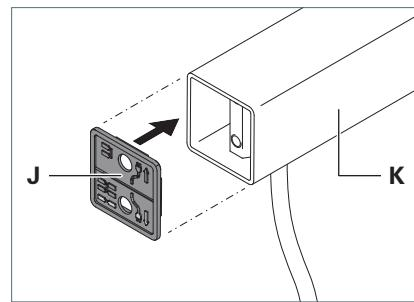

Fig. 2: Inserting the liner plate.
- Turn the liner plate J to the correct installation position and insert it onto the column K, see Fig. 2.